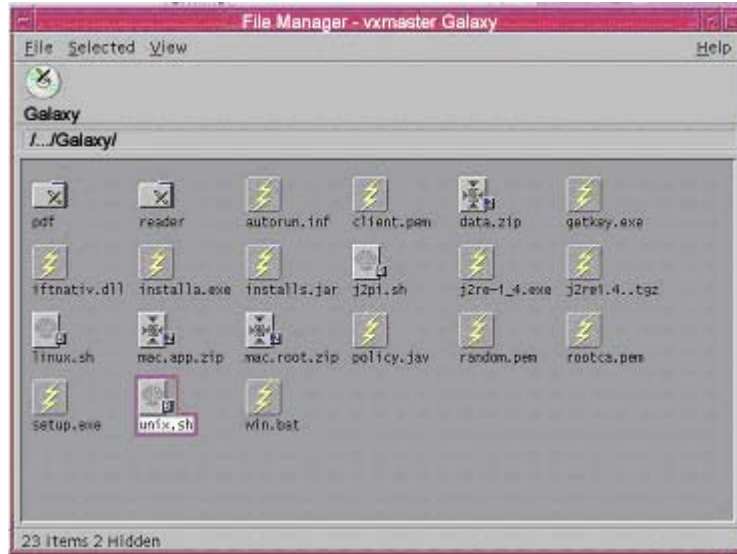

Figure 3-3: File Manager Window in Solaris Platform
Step 4. When the **File Manager** window pops up on the screen, double-click the file “unix.sh.” (See *Figure 3-3*)